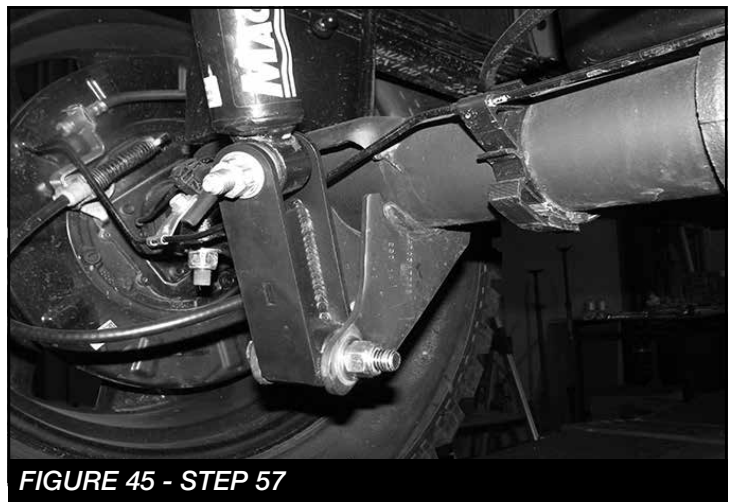

FIGURE 45 - STEP 57
57. Reinstall the shocks onto the lower axle mounts using FT20673BK Rear Shock Bracket Torque to 100 ft-lbs. **SEE FIGURE 45**